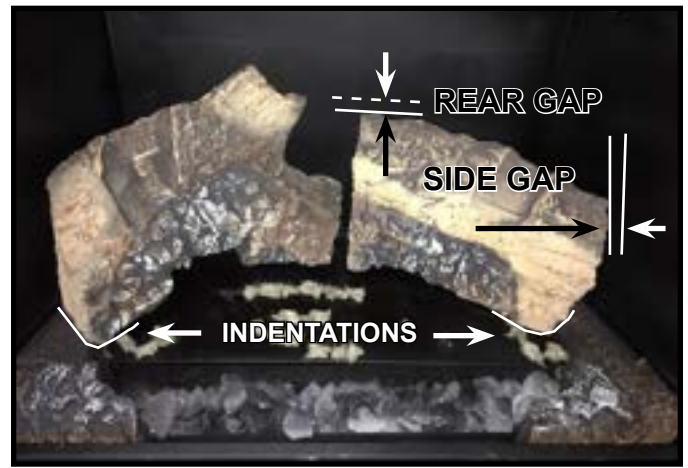

Figure 5. Rear Right Log Installed
Additionally, the rear left log and rear right log are located by indentations in the right and left hearth components. See Figure 5.
1. Remove large rear left log from the packaging and install the log by locating it on the back left log pin(s). The left side of the log will reside within the indentation in the left hearth component. See Figure 5.
2. Remove the large rear right log from packaging and install it by locating it on the back right log pin. On some models, it may be necessary to lift the rear left log slightly to install the rear right log. The right side of the log will reside within the indentation in the right hearth component. See Figure 5.
550X-AU Models: The rear right log will be positioned to maintain about a 1 in. (25 mm) rear gap between the rear right log and the back wall refractory. The rear right log maintain a 1 in. (25 mm) gap from the right wall. See Figure 5.